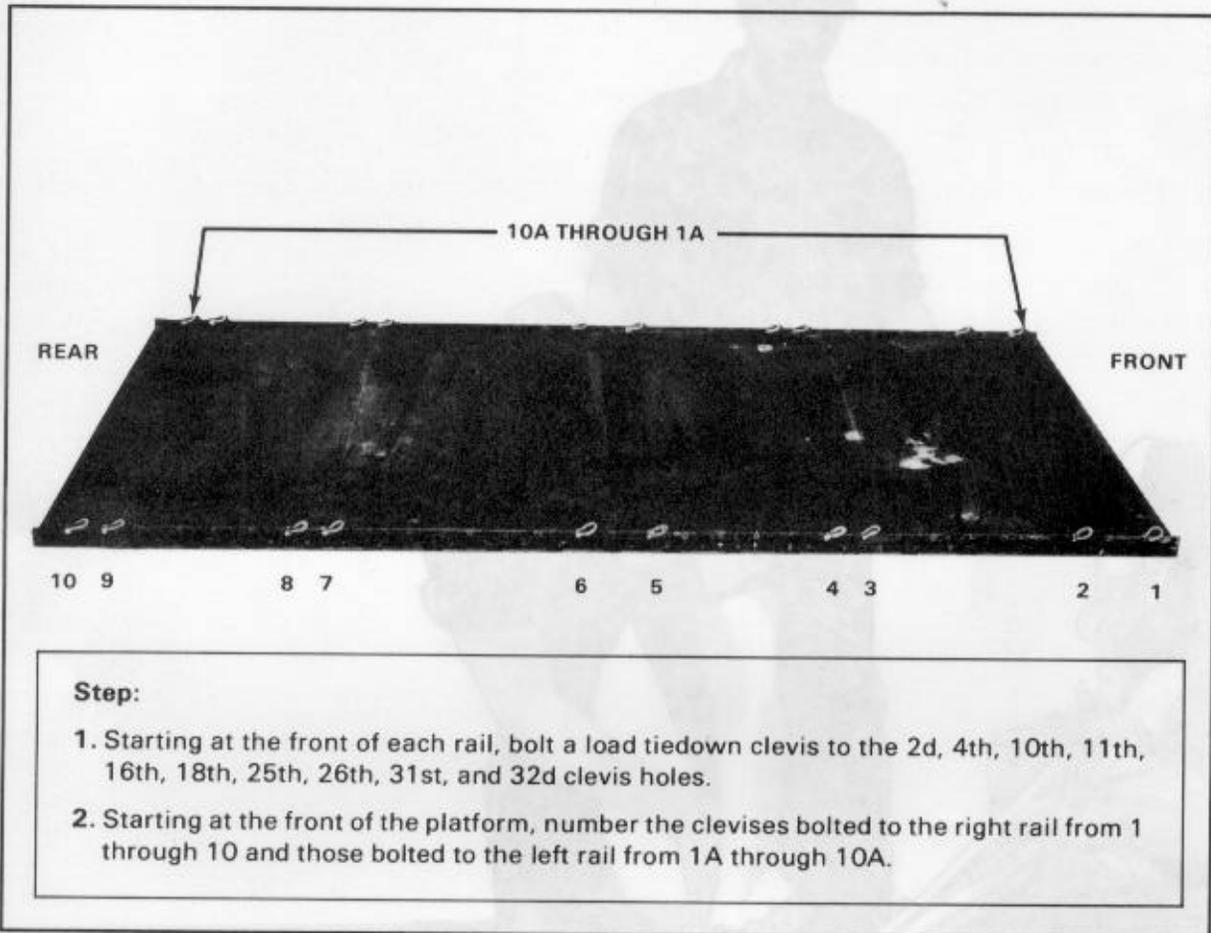

Figure 3-1. Platform prepared.
Prepare a 16-foot, type II, modular platform (figure 3-1) as follows:
**b. Installing and Numbering Load Tiedown Clevises.** Bolt 20 load tiedown clevises to the platform rails, and number them as shown in figure 3-1.